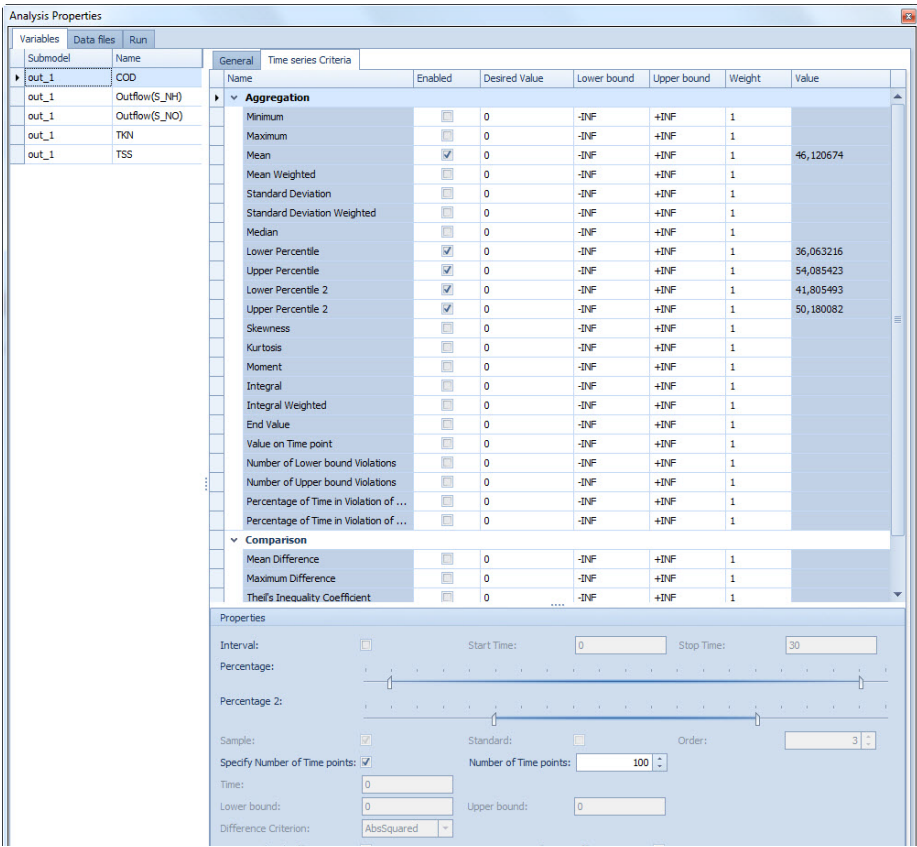

Figure 7.7 Analysis Properties dialogue and Time series Criteria for each objective
- In the Time series Criteria tab page, for each variable, select the criteria that are to be computed (Figure 7.7) and their properties: